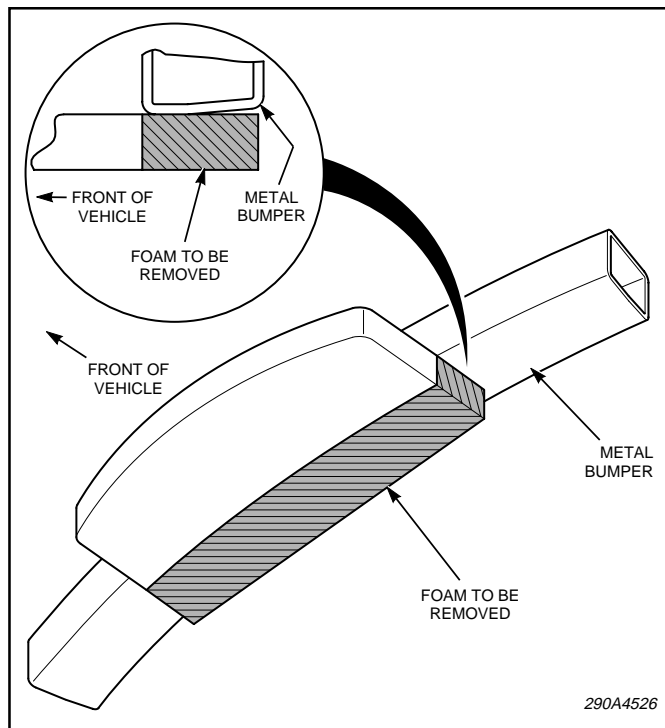

Figure 1.
1. See figure 1. Locate and remove the area indicated, behind front license plate mount, on the underside of the vehicle. Use front edge of metal bumper as a guide.